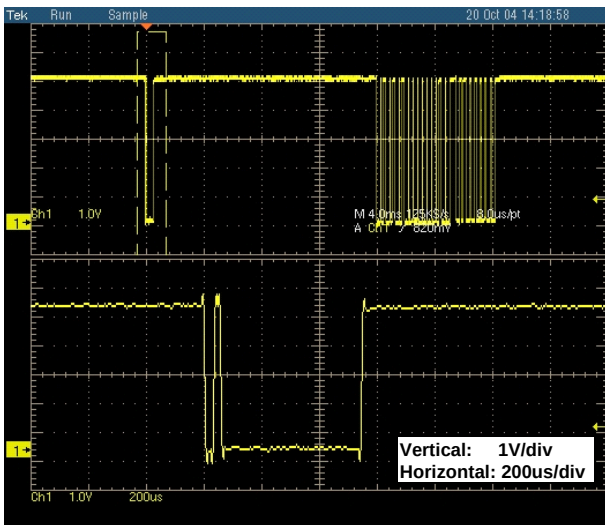

FIGURE 14. POWER-ON BREAK SIGNAL TO WAKE-UP THE ISL6296 FROM SLEEP MODE
that should be used only when the user knows for sure that the device is in the sleep mode. After the narrow break, the device will wake up and send back a break (Refer to the datasheet for more explanation of the narrow power-on break). Figure 14 illustrates the captured waveforms. If the user does not know if the device is in the sleep mode or is awake, the "regular break" option should be chosen, because the long break signal will still wake up a device in sleep mode, or will be ignored if the device is already awake. The send without a break signal can be an option if the user knows for sure that the device is not in the sleep mode.
signal is provided in the XSD Access tab as an option of the *Send* button. When this option is selected, the host sends out a 'power-on break' before sending the instruction frame. Figure 14 illustrate the two 'break' signals. The narrow one was sent by the host and the wider one was the one returned from the ISL6296 (approximately 480μs). From the 480μs 'break' signal, the BT can be calculated as
1. If the device is in the sleep mode, send a 'power on break' with a read instruction in the XSD Access tab to measure the returned 'break' signal for ISL6296, as shown in Figure 14.